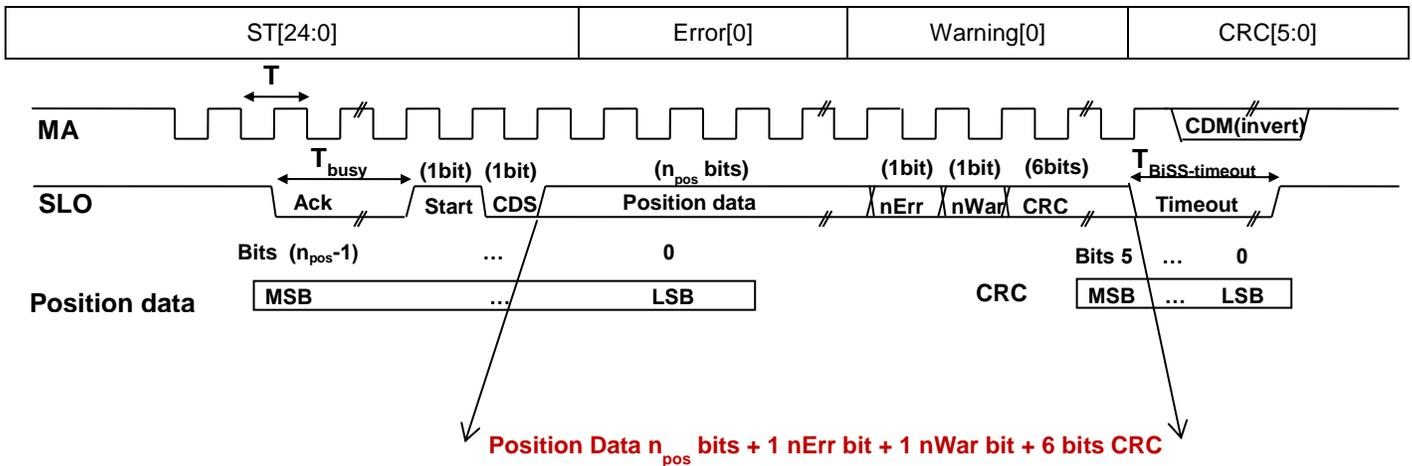

Figure 3 BiSS-C Interface Timing Diagram
1. Refer to Figure 3 for timing description